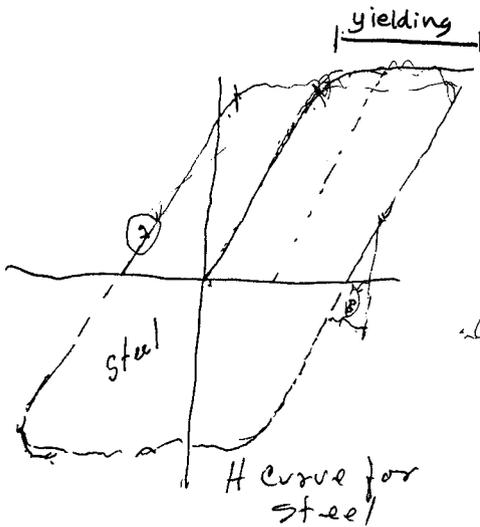

Figure 13
**Degenkolb:** The movement is not damaging it. The steel does deform, but it takes many cycles to cause a fatigue failure. It's like a tin can lid. If you bend it enough times, it will break. But it will undergo a large number of cycles (Figure 13). The diagram shows one hysteresis loop in the beginning. Then we unload it. This is the second loading and it goes around here, and then we do a slightly different but almost exactly the same third loading, and it keeps going around. If you stretch it back and release the load, it will come right back.
**Degenkolb:** Yes. But if you bend it far enough to go beyond the yield point, it will go into here (Figure 13, yielding range). Now if
**Scott:** In other words, the yield point is about at the top part of the curve in Figures 13 and 14, where the curve flattens out up there at the top.
the other direction. So far the curve looks very much like steel. Now you've pushed one direction, and you've pushed the other direction, and you've got two cracks (Figure 15). It's not as stiff as it was before, which means it lays down a little bit more. It will probably meet that same point of stress again, but over further. Now it may lay down a little further on its way back. It will just keep doing that, laying down further each time. [Figure 13 is the hysteresis diagram for steel, and Figure 15 is an actual cross section of a diagram of a concrete column. Figure 14 is the hysteresis curve for the concrete column with the cracks in it. Fig-
**Degenkolb:** This (Figure 13) is big, but this (Figure 14) gets closer and closer and closer together. This (Figure 14) keeps going further and further out, keeps going further and further out. But they [the loops] come in like this [pointing to the middle of Figure 14], and it's very narrow in between the two. We call that pinching. That's why the concrete column failures look so similar. Because it's this effect. Just imagine you keep grinding the concrete away until you have nothing but the reinforcing bars, which are bulging out. The rod-bracing hysteresis curve is similar to the pinched curve (Figure 14), but has more straight lines.